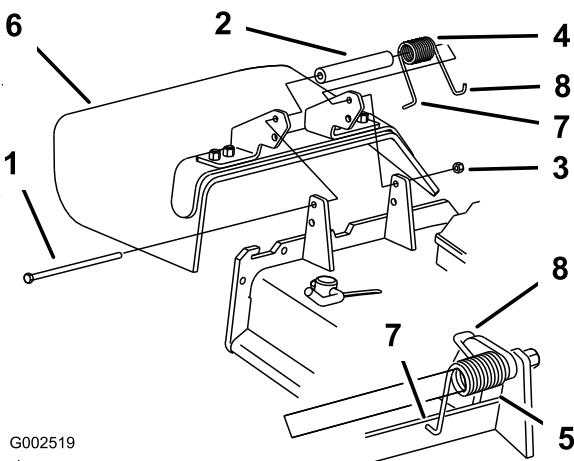

Figure 94
1. Remove the locknut, bolt, spring and spacer holding the deflector to the pivot brackets (Figure 94).
Note: Make sure the **L** end of the spring is installed behind the deck edge before installing the bolt as shown in Figure 94
5. Place the **J** hook end of the spring around the grass deflector (Figure 94).